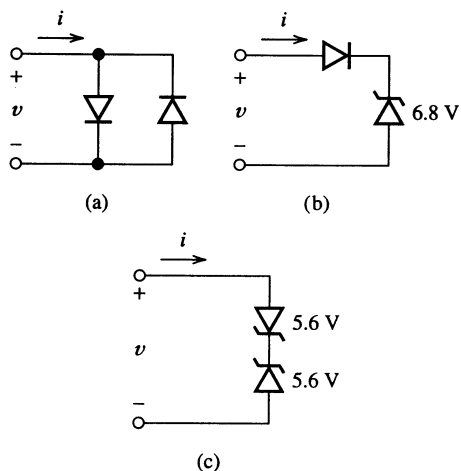

Figure P3.5
3.5. Sketch i against v to scale for the circuits shown in Figure P3.5. The diodes are typical small-signal silicon devices at 300 K. The reverse-breakdown voltages of the Zener diodes are shown. Assume 0.6 V for all diodes (including Zeners) in